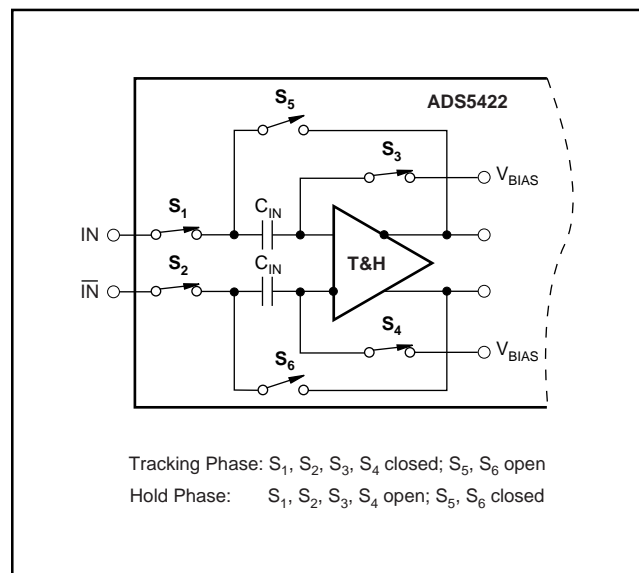
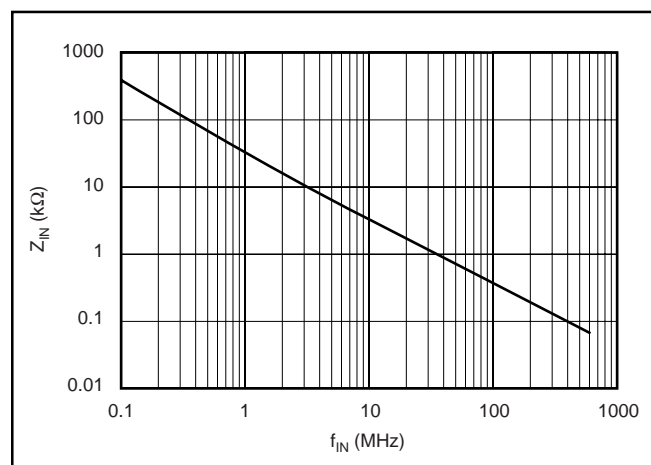

FIGURE 1. Simplified Circuit of Input Track-and-Hold Amplifier.
FIGURE 2. Differential Input Impedance vs Input Frequency.
The analog input of the ADS5422 consists of a differential track-and-hold circuit, as shown in Figure 1. The differential topology produces a high level of AC performance at high sampling rates. It also results in a very high usable input bandwidth—especially important for Intermediate Frequency (IF) or undersampling applications. Both inputs (IN, $\overline{\text{IN}}$) require external biasing up to a common-mode voltage that is typically at the mid-supply level ($+V_S/2$). This is because the on-resistance of the CMOS switches is lowest at this voltage, minimizing the effects of the signal-dependent,
The input of the ADS5422 is capacitive, and the driving source needs to provide the slew current to charge or discharge the input sampling capacitor while the track-and-hold amplifier is in track mode (see Figure 1). This effectively results in a dynamic input impedance that is a function of the sampling frequency. Figure 2 depicts the differential input impedance of the ADS5422 as a function of the input frequency.